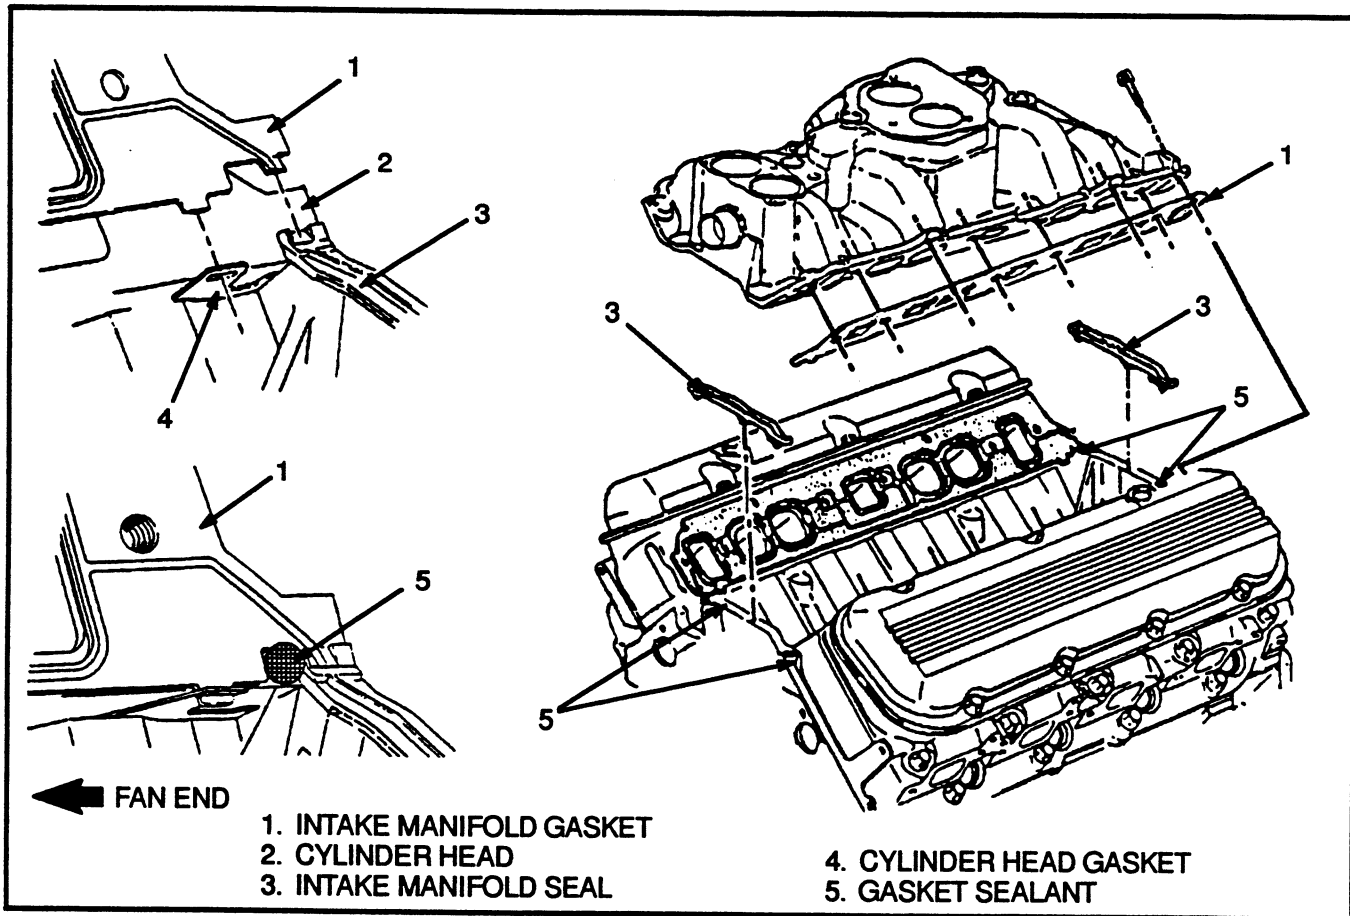
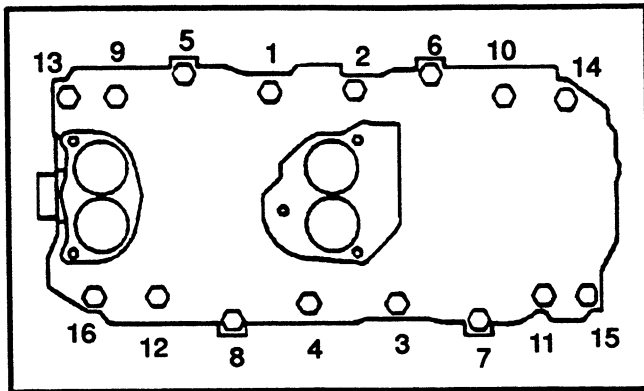

FIGURE 16. SEALANT LOCATIONS, INTAKE MANIFOLD
FIGURE 17. TIGHTENING SEQUENCE, INLET MANIFOLD
5. See FIGURE 16. Install the intake manifold seals to the block. Install the intake manifold gaskets on the cylinder heads. Apply a 5 mm (0.2 in) spot of RTV sealant (part number 280472) to the front and rear of the block in four places. Install the intake manifold. Tighten the capscrews to 40 Nm (30 lbf ft) in the sequence shown in FIGURE 17.